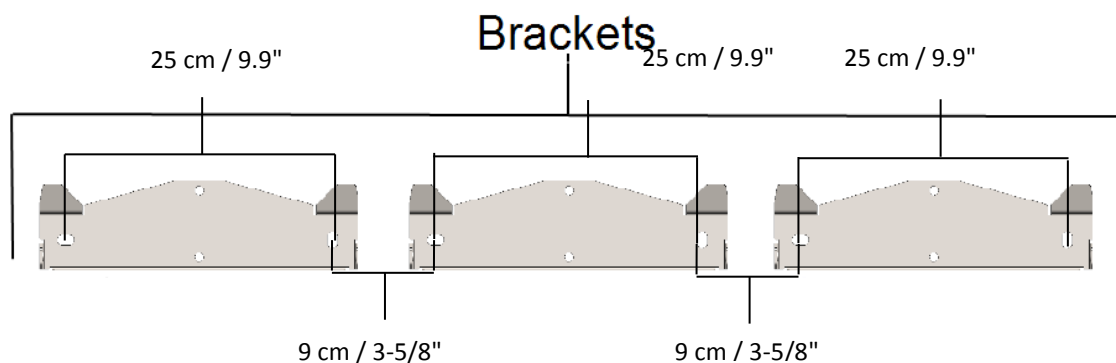

Figure 1: Brackets Placing
- 1 Position the mounting brackets against the wall and mark the required drilling holes locations. The distance between neighboring holes from different brackets should be 9 cm / 3-5/8" (see Figure 1) to ensure a distance of 3 cm / 1-1/4" between inverter units.